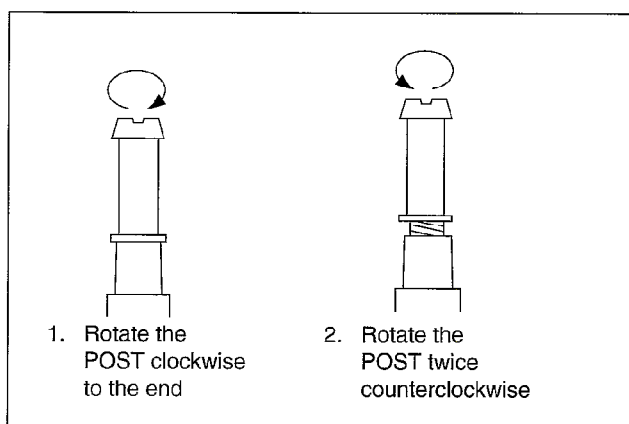

Fig. M4
(Fig. M4)
- (4) Rotate the P2 and P3 Posts twice counterclockwise. (Fig. M4)